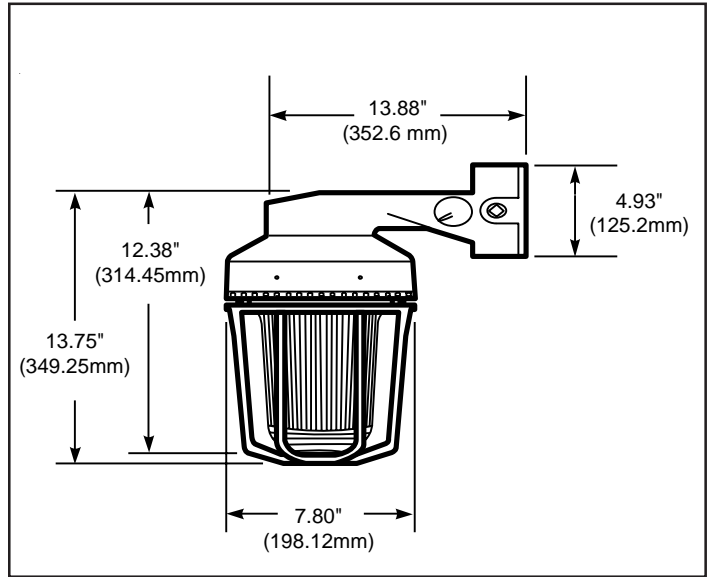

Figure 3. Detail of Bracket Mounting
- c. **Bracket Mount Models** (Figures 3 and 4): Unscrew the globe assembly from the wall bracket. Install the mounting bracket using appropriate hardware (not supplied) for the mounting surface. Pull the field wiring through the mounting bracket. Proceed to step 2.
106DEXBSTC-FJ	Bracket Figure 3